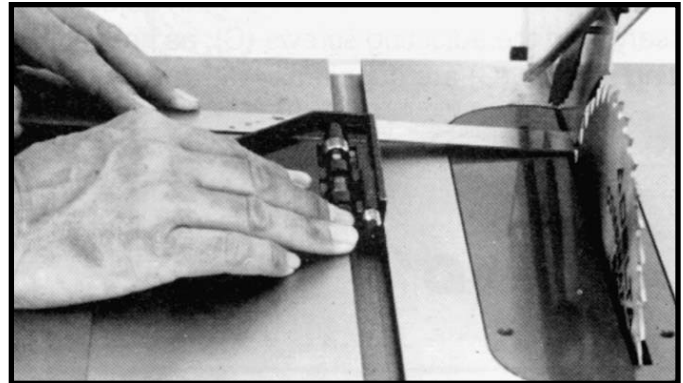

Fig. 63
2. Rotate the saw blade so that the same tooth you used in **STEP 1** is in the rear position, as shown in Fig. 63, and check this distance. Both the front and rear measurements should be identical.